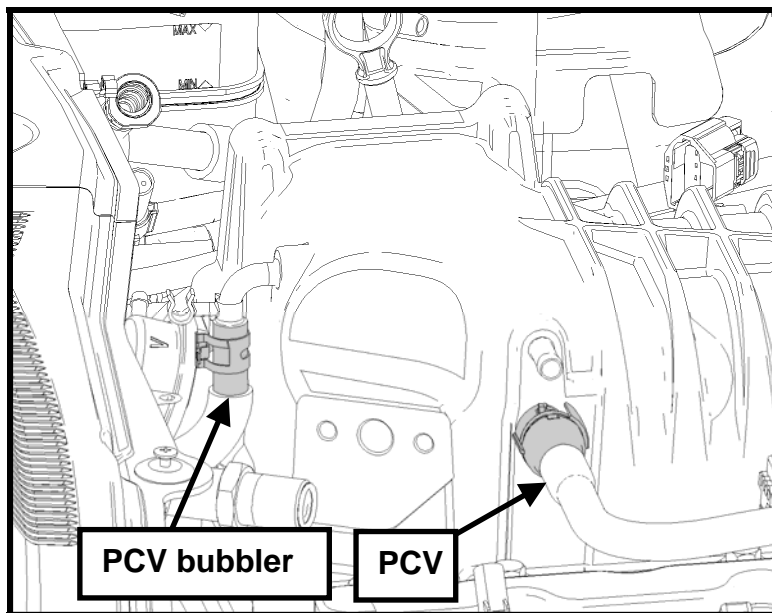

Fig. 11
- STEP 11:** Disconnect the PCV and PCV bubbler hoses from the supercharger (See Fig. 11).